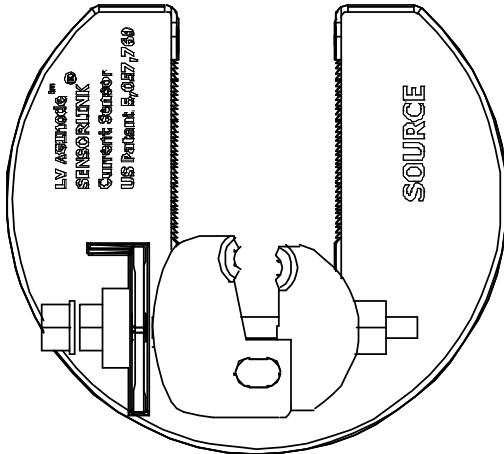
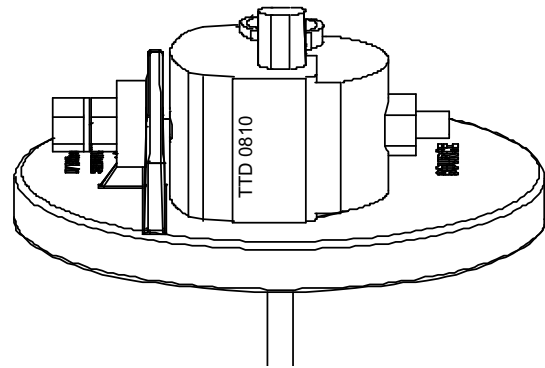

Figure 6.
Figure 7.
5. Position the voltage connector outer jaw onto the inner jaw. Screw the connector bolt into the outer jaw until the bolt is finger-tight (see Figure 6 and Figure 7).